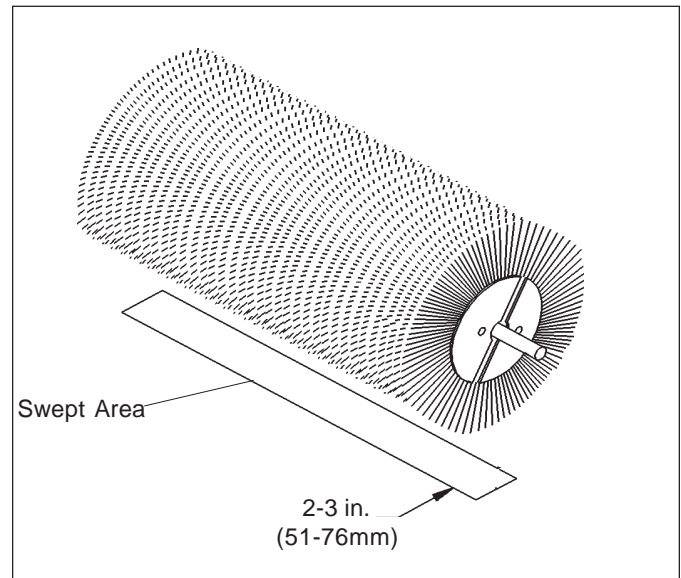

figure 1
4. Raise the sweeper and back away; switch off the engine and remove the key. The brush pattern left in the dust should be 2-3 inches wide, running the length of the brush. (Compare the swept area with figure 1.)